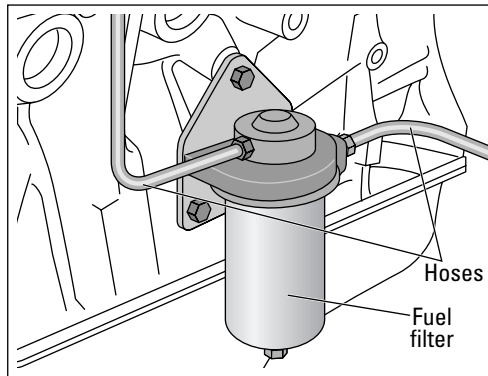
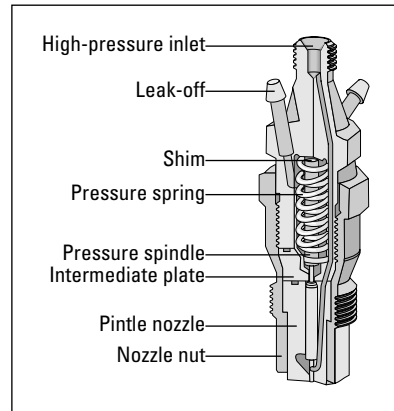

Figure 9-3: A diesel fuel filter.
Figure 9-4: Anatomy of a fuel injector.
3. *Fuel pumps* deliver the fuel from the *fuel tank* to the engine. On its way, the fuel passes through a couple of *fuel filters* (see Figure 9-3) that clean it before it can get to the *fuel injector* nozzles (see Figure 9-4). Proper filter maintenance is especially important in diesels because fuel contamination can clog up the tiny holes in the injector nozzles.